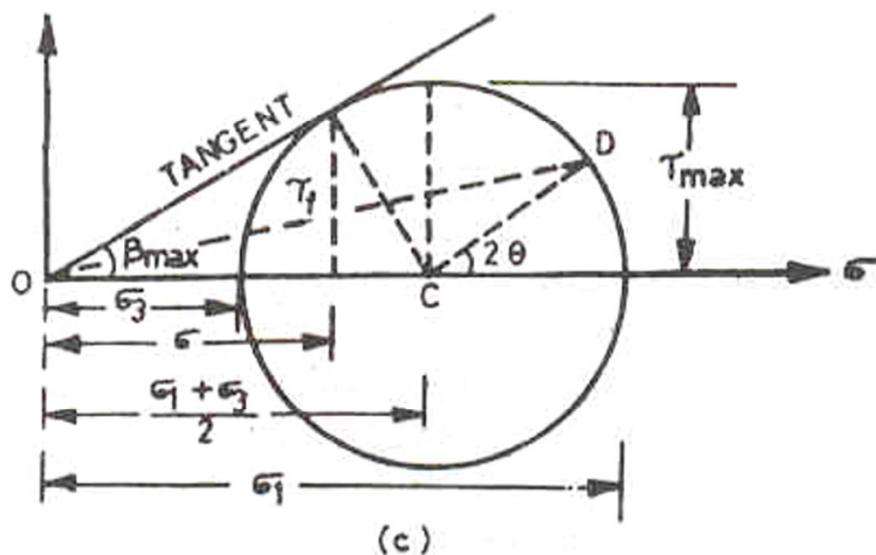

Fig. 13.5. Characteristics of Mohr's Circle.
- (1) The maximum shear stress τ_{\max} is numerically equal to $(\sigma_1 - \sigma_3)/2$ and it occurs on a plane inclined at 45° to the principal planes (Fig. 13.5).
- (2) Point D on the Mohr circle represents the stresses (σ, τ) on a plane make an angle θ with the major principal plane.